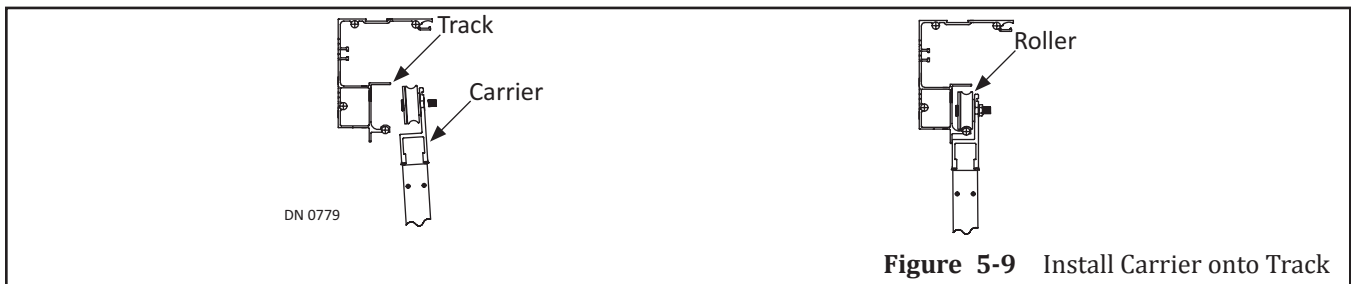

Figure 5-9 Install Carrier onto Track
4. Slightly tilt the Slide door to make it easier for the (4) Rollers to 'catch' onto the track. Please see Figure 5-9.